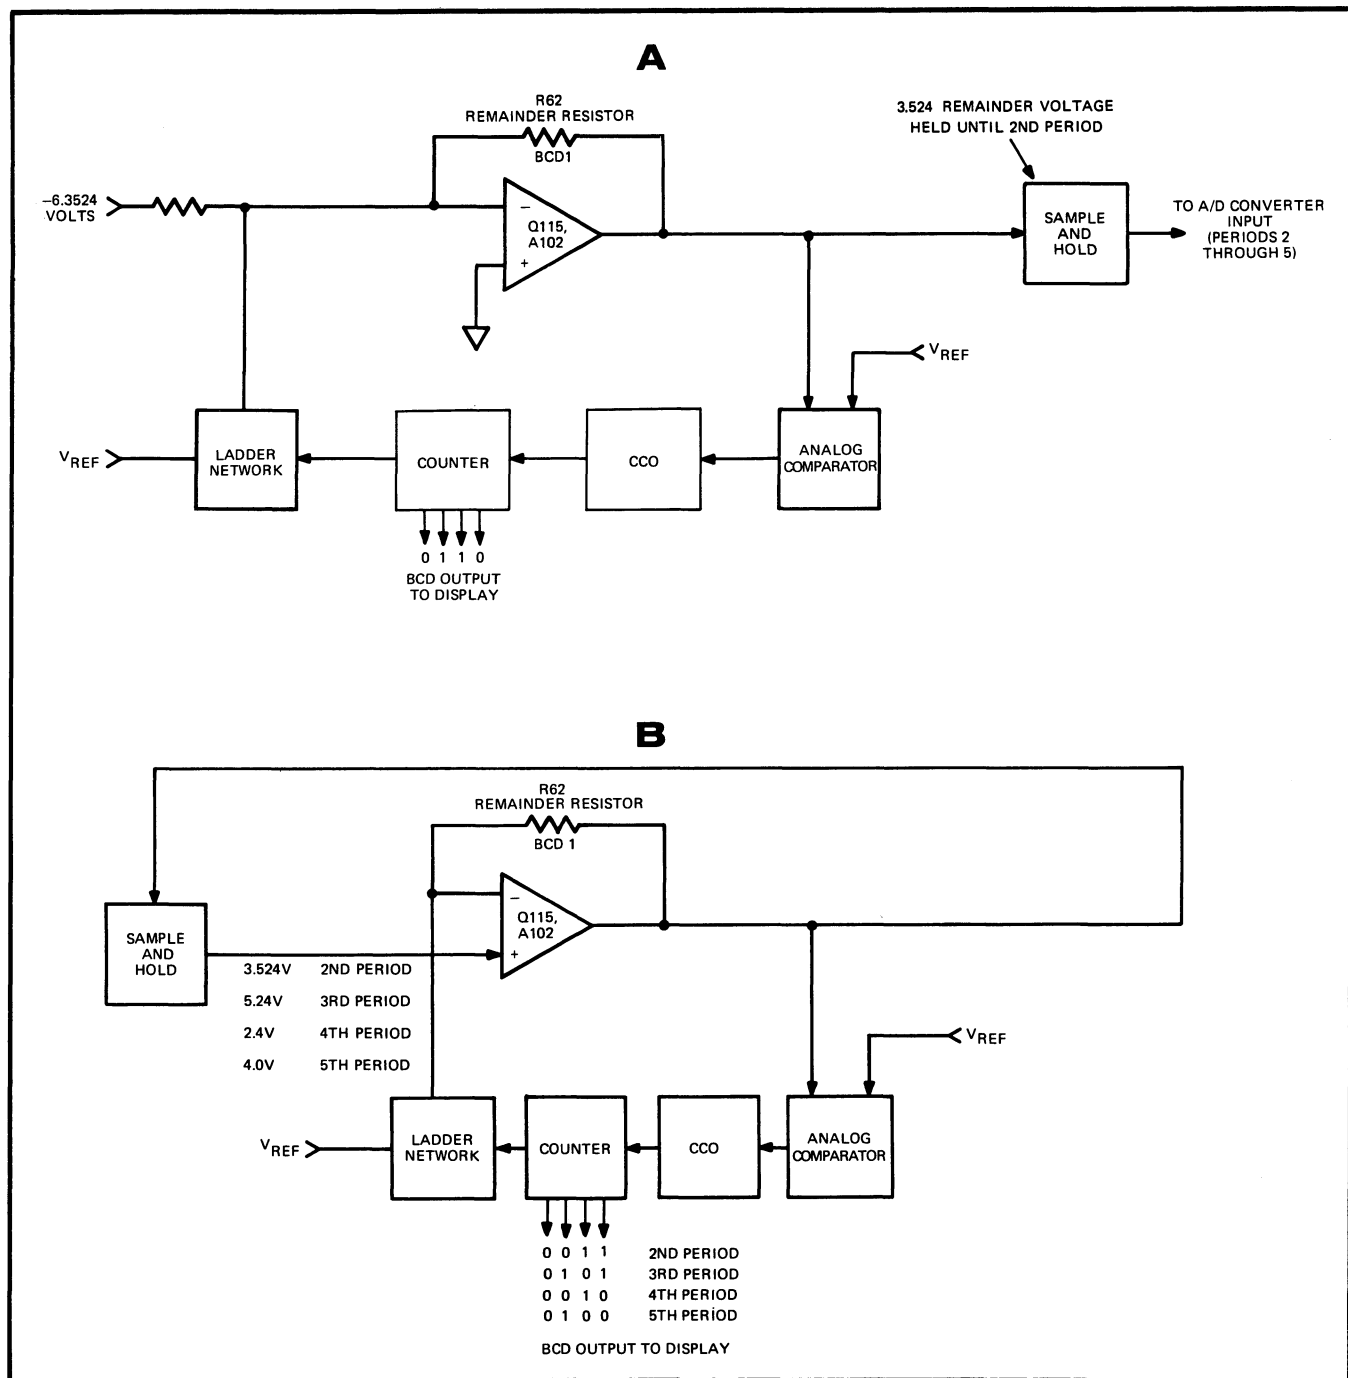

Figure 3-7. A/D CONVERTER CIRCUIT ARRANGEMENT FOR DIGITIZING AND DISPLAYING
3-17. The A/D converter has two basic operating modes. It is connected as an operational amplifier during the first period of the measurement cycle and it is connected as a voltage follower during the remaining four periods of the measurement cycle. The simplified diagram of Figure 3-7 (A) shows the circuit arrangement for measurement of the first digit (6) of a -6.3524 volt input. The amplifier is satisfied by two feedback loops. The loop consisting of the CCO, counter, and ladder is activated whenever the amplifier output exceeds V_{REF} , while the remainder resistor feedback loop satisfies the amplifier for all amplifier outputs less than V_{REF} . The sum of the two feedback currents and the input current flowing into the summing junction at the amplifier input result in amplifier balance. After a short interval, during which time the amplifier is allowed to settle, the "6" is displayed and the amplified remainder is applied to the sample and hold circuit. The A/D converter circuit arrangement for measurement of second, third, fourth, and fifth digits is shown in Figure 3-7 (B). The 3.524 volt remainder is applied to the input of the amplifier, now connected as a voltage follower, and is digitized and displayed as the new input signal. Succeeding remainders are applied, in turn, through the sample and hold circuit to the amplifier input, until the entire -6.3524 volt input has been digitized and displayed.